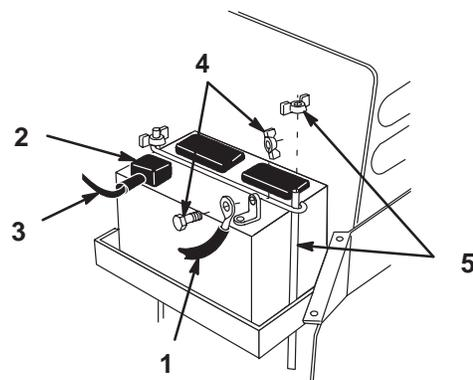

Figure 36
4. Disconnect the negative (black) ground cable from the battery post (Fig. 36).
5. Lift the rubber cover up on the positive (red) cable. Disconnect the positive (red) cable from the battery post (Fig. 36).
6. Remove the battery hold down rods (Fig. 36).
9. Using the bolt and wing nut, connect the positive (red) cable to the positive (+) battery post (Fig. 36). Slide the rubber cover over the battery post.
10. Using the bolt and wing nut, connect the negative (black) cable to the negative (-) battery post (Fig. 36).